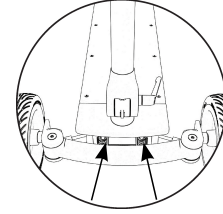

FIG 3. SPRINGS
5. The self centering springs in the front of the CycleBoard may initially make squeaking and clicking sounds when steering but will stop after a short break in period. Shown in Fig 3.